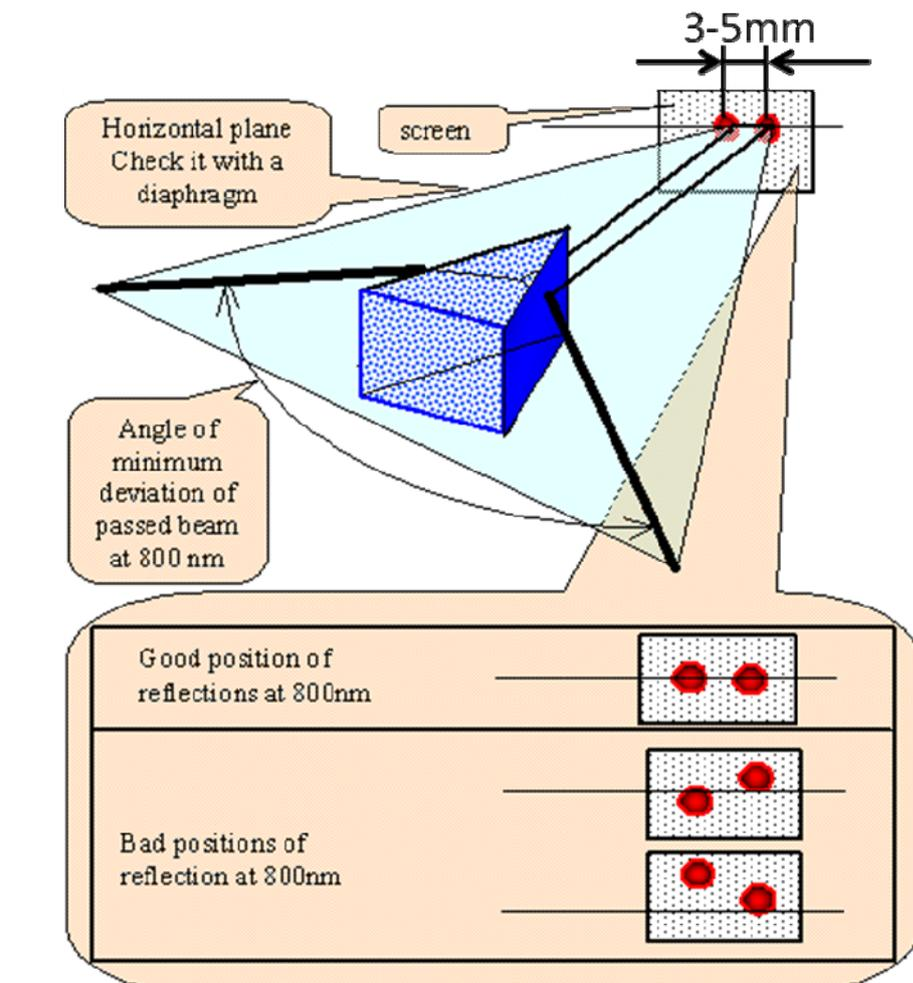

Fig. 13 Prisms P1 (P2) alignment.
- *Rotating the prism's base plate adjust prism for minimal deviation of the beam (**Fig. 13**).*
1. The spot on the M1 mirror should look like described in item 43. If not align M9 and OC.
2. There are beams reflected from the apex of each prism. The beams must be in cavity plane (the same plane above the breadboard of the laser head, refer to **Fig. 13**). If not then align the prisms and M9, OC to fix it.
3. It's recommended to keep the distance between the beams reflected off the prisms' (P1 и P2) surfaces around 3-5 mm (refer to **Fig. 13**)